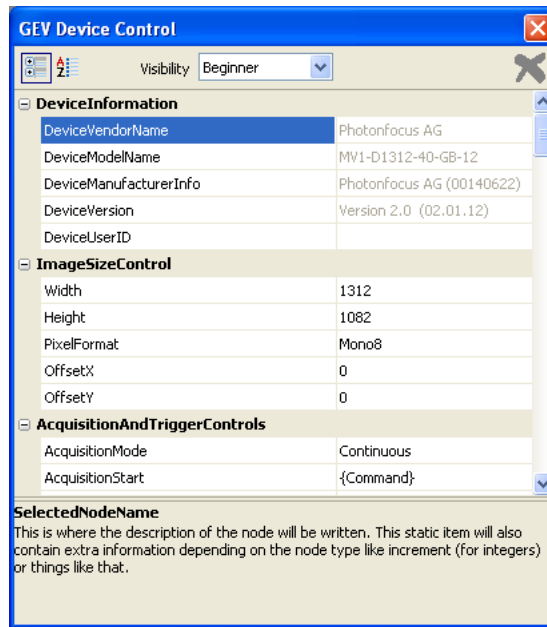

Figure 2.9: Control settings on the camera
8. Camera parameters can be modified by clicking on GEV Device control (see Fig. 2.9). The visibility option Beginner shows the basic parameters and hides the more advanced parameters. If you don't have previous experience with Photonfocus GigE cameras, it is recommended to use Beginner level.